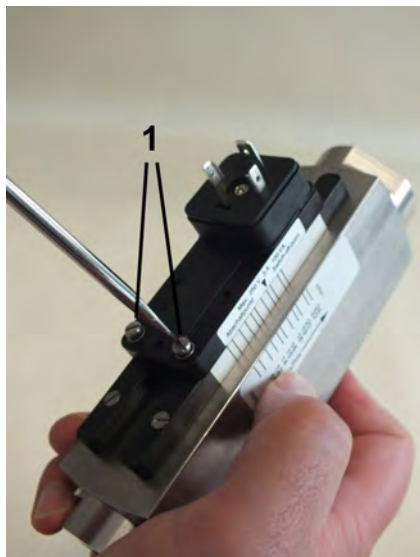

Fig. 34: Loosen the set screws
1. ➤ Loosen the set screws of the switch contact (Fig. 34/1) using a flat-bladed screwdriver.
3. ➤ Tighten the set screws of the switch contact (Fig. 34/1) using a flat-bladed screwdriver. When doing so, observe the correct tightening torque of the screws.